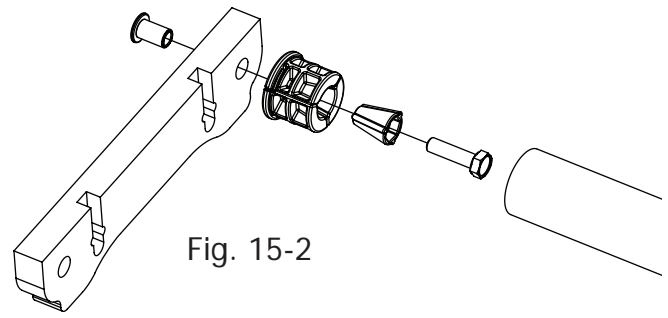

Fig. 15-2
- ✦ **Step 15-3:** Insert the bolt, and conduit cone into the 3 conduit caps, as shown in Fig. 15-2.